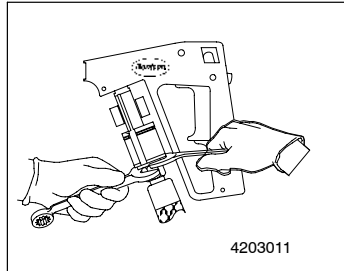

Figure 4 Attach the Hose to the Handgun (electrical connections not shown for clarity)
3. See Figure 4. Attach the hose fitting to the swivel connector, and tighten using two wrenches. Place a 20-mm ($3/4$ -in.) wrench on the wing of the swivel connector, and tighten the hose fitting using the 18-mm ($11/16$ -in.) wrench.